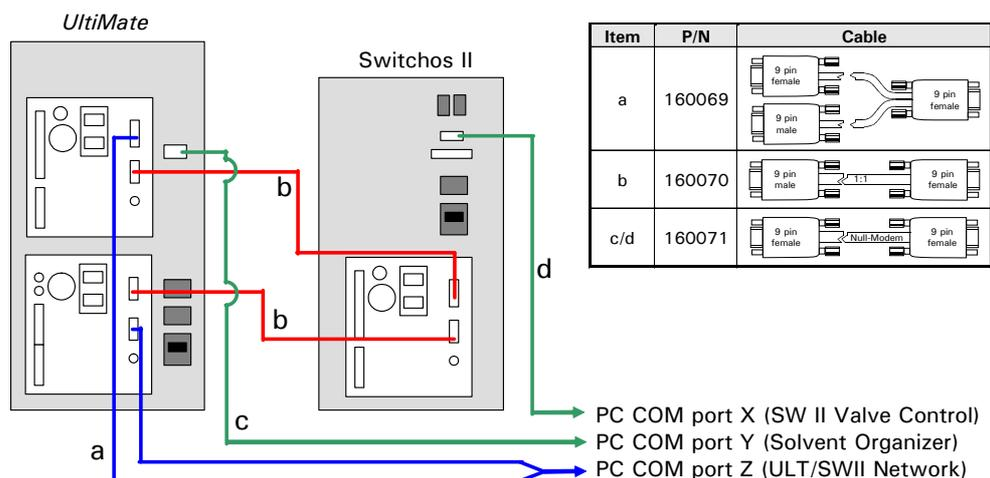

FIGURE 2-8 Setting up the RS-232 Connections - UltiMate and Switchos
- a) Connect the RS-232 1 port of the UltiMate Micropump, the RS-232 2 port of the UltiMate UV Detector and the COM port of the PC using the Y-shape cable (item a, FIGURE 2-8).
- b) Connect the RS-232 1 port of the Switchos II loading pump to the RS-232 2 port of the UltiMate Micropump using the Serial Communication Cable (item b, FIGURE 2-8). Connect the RS-232 2 port of the Switchos II loading pump to the RS-232 1 connector of the UltiMate UV Detector with the same type of cable.
- c) Connect the UltiMate Solvent Organizer COMMUNICATION port to a free COM port on the computer using the Solvent Organizer Com cable (item c, FIGURE 2-8).
- d) Connect the Switchos II COMMUNICATION port to a free COM port on the computer using the Solvent Organizer Com cable (item d, FIGURE 2-8).